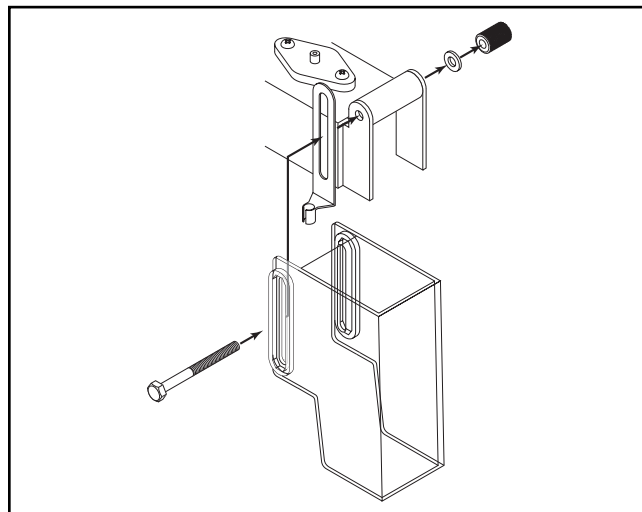

Figure 4. Blade guard assembly.
2. Thread the bolt through the blade guard components as shown in **Figure 4**, and screw it into the knurled nut.